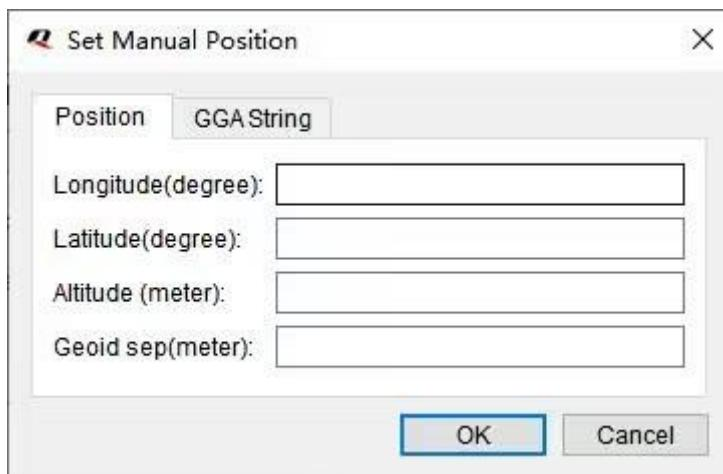

Figure 26: Setting Manual Position
Step 5: To utilize a fixed position, you can select the checkbox labeled “Use manual position”, and a “Set Manual Position” window will appear as shown in Figure 26: Setting Manual Position. Once you input the required data, the uploaded position will be the fixed value you have manually set.
Step 3: To utilize a fixed position, you can select the checkbox labeled “**Use manual position**”, and a “**Set Manual Position**” window will appear as shown in Figure 26: Setting Manual Position. Once you input the required data, the uploaded position will be the fixed value you have manually set. If the checkbox remains unchecked, the real-time position in the **GGA** message output by the module will be used.